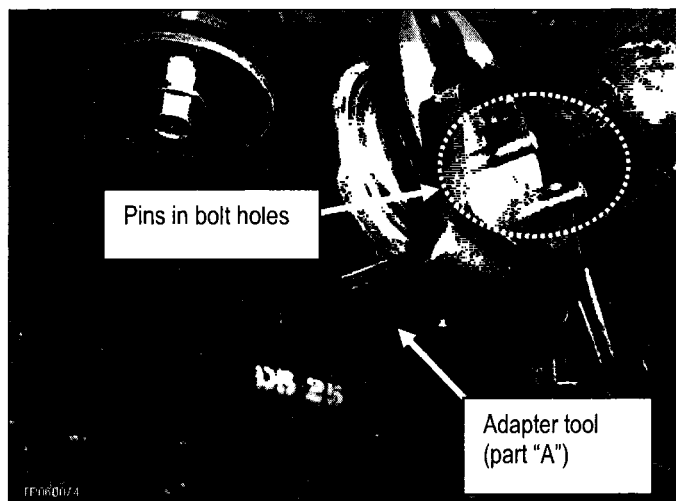

Figure 27
- Install part "A" of the adapter tool onto the pinion flange. Make sure both pins on the tool are inserted into the pinion flange bolt holes (see Figure 27).